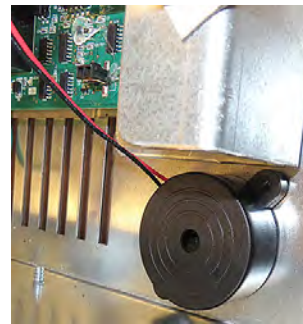

Figure 32
37. Peel off the tape backing and apply to the basket lift case as shown (see Figure 32).